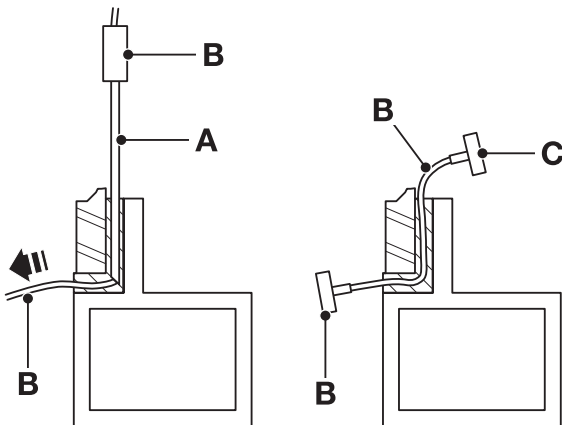

Fig 7. Braided Cutting Wire and Handles
- b Braided Cutting Wire and Handles. → Fig 7. \(□ B-6\). This method uses a 3-core wire, a wire starter tube and two handles.
- i Insert the steel tube **8-A** into the old sealant on the inside of the glass. → Fig 7. \(□ B-6\).